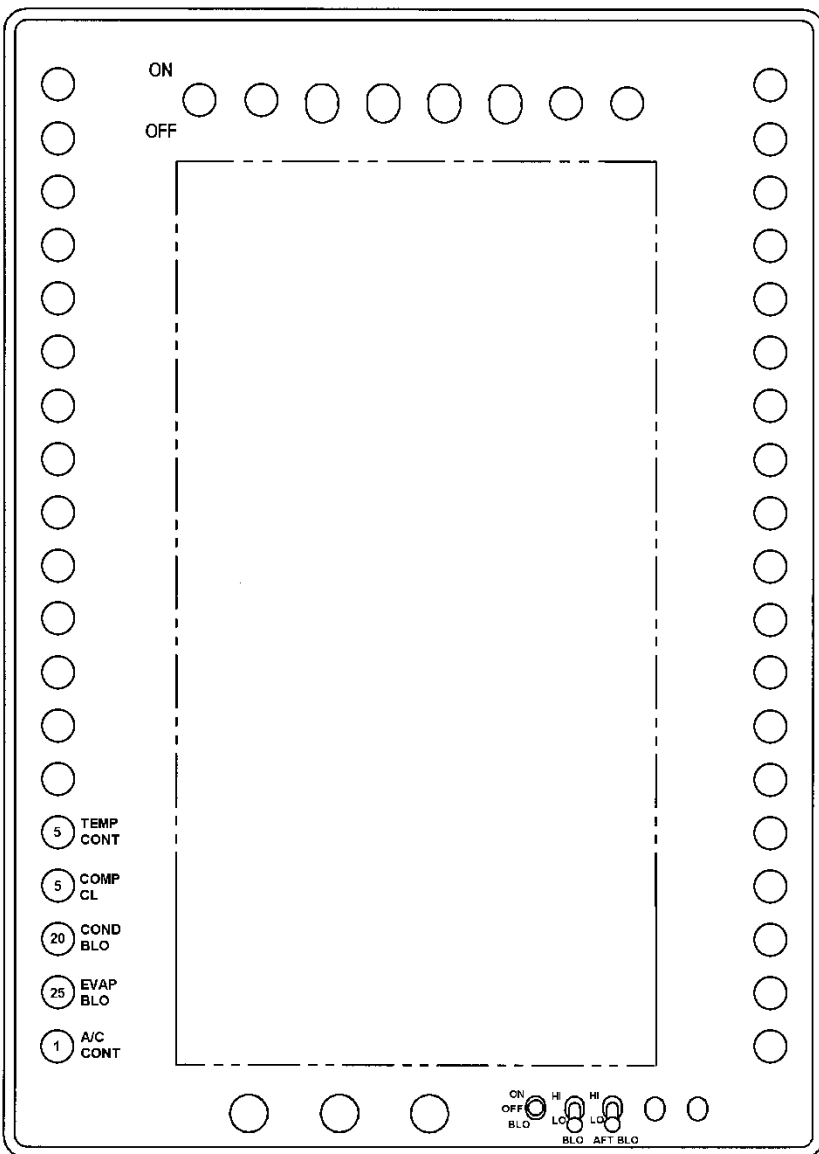

Figure 5-7-2. Switch and Circuit Breaker Location
2. Operation of the air conditioning system is controlled by switches located in the lower center avionics panel. Figure 5-7-2 shows the switch and circuit breaker locations for the air conditioning system.
The location of the switches and circuit breakers may be different than shown in Figure 5-7-2 depending on the customer specified avionics installed in the aircraft.